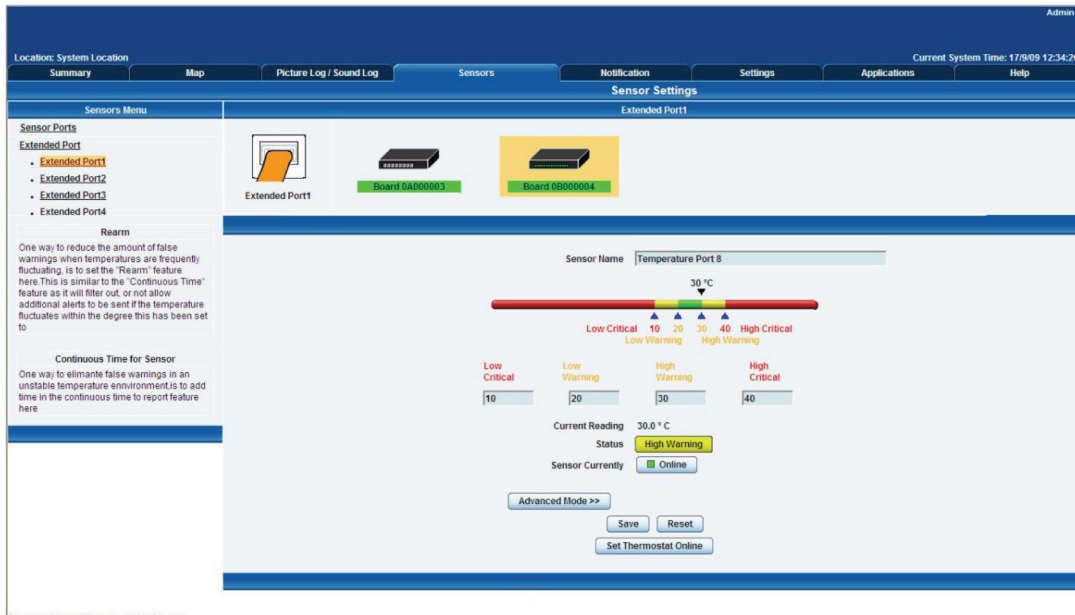

Figure 3-17. Sensor Settings page for Temperature Sensor on Port 1.
8. After you click on the chosen sensor port, the screen shown in Figure 3-17 will appear.